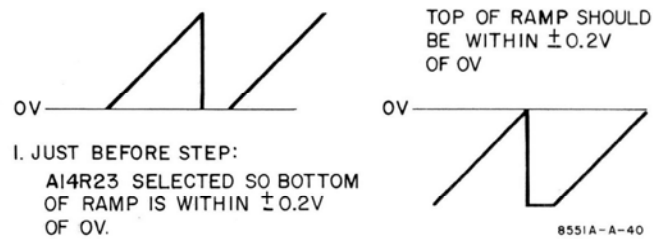

Figure 5-16. Adjustment of Sweep Ramp, Phase-Lock Circuit
p. Set TUNE just counterclockwise of the step and note bottom of ramp with respect to 0 V reference (see Figure 5-16).